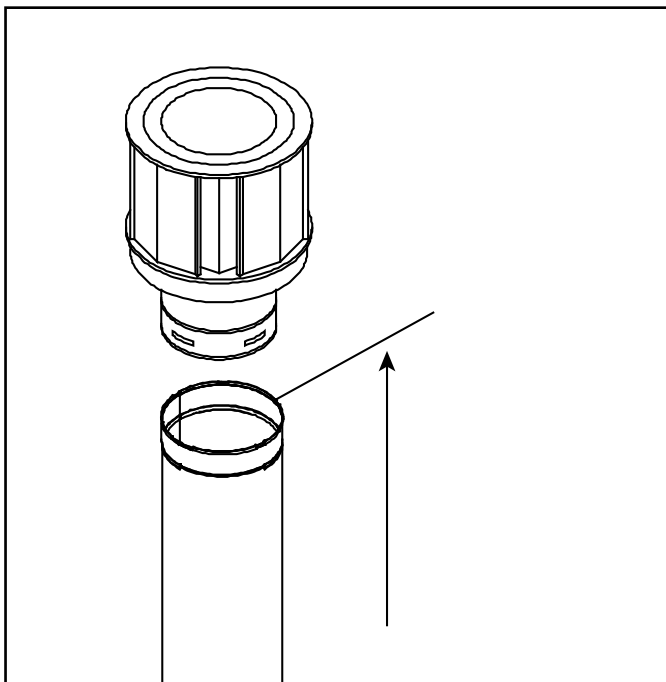

Figure 4.8 Measure to Top of Last Section of Pipe
- Vertical terminations are measured to top of last section of pipe. See Figure 4.8.